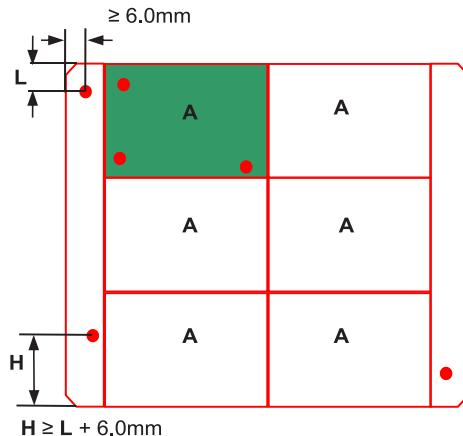

Figure 30: Fiducial positioning requirements on the panel margins and individual boards.
- [65] Panel Fiducials and image Fiducials should be located on the panel margins and on individual sub-boards respectively. There should be three panel Fiducials per board and three local Fiducials per sub-board, arranged in an 'L' shape as far from each other as possible, as shown in Figure 30: